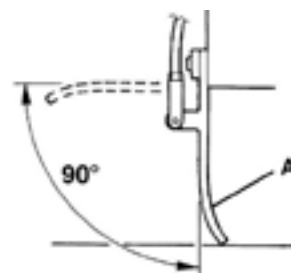

Figure15
- 5) Press the front skirt lifting pedal (3) and check that the front skirt (A, Fig. 15) turns upward for about 90° (as shown in the figure); then release the pedal and check that the skirt does not remain in an intermediate position but returns to its initial position. If necessary, for the front skirt control cable adjustment or replacement.